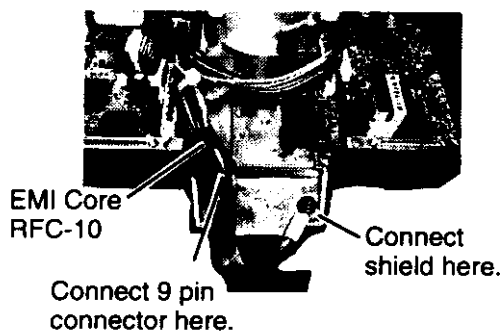

Figure 9 How to connect the signal cable to the antenna unit
- Referring to Figure 9, connect the 9-pin connector to J801. Attach EMI Core RFC-10 (supplied) to antenna cable. Fasten the shield to location shown in the Figure 9.